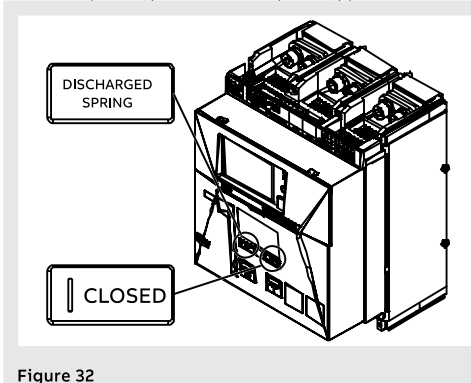

Figure 32
5. Make sure that the circuit-breaker is closed. The "I - CLOSED" opening/closing indicator must be activated. Check that the springs are discharged. The spring indicator must indicate "DISCHARGED SPRING - white colour", as illustrated in Figure 32.